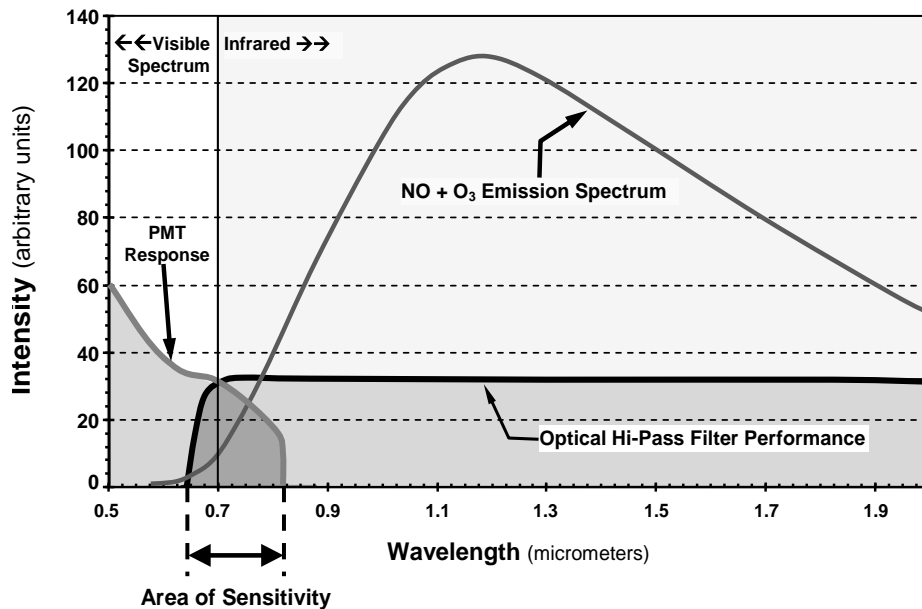

Figure 6-3. Sensitivity Spectrum
- All things being constant (temperature, pressure, amount of ozone present, etc.), the relationship between the amount of NO present in the reaction cell and the amount of light emitted from the reaction is very linear. If more NO is present, more IR light is produced. By measuring the amount of IR light produced with a sensor sensitive in the near-infrared spectrum (see Figure 6-3) the amount of NO present can be determined.
The sensitivity curve includes a small portion of the visible light spectrum (see Figure 6-3), therefore it is important to ensure that the reaction cell is completely sealed with respect to light. To ensure this: